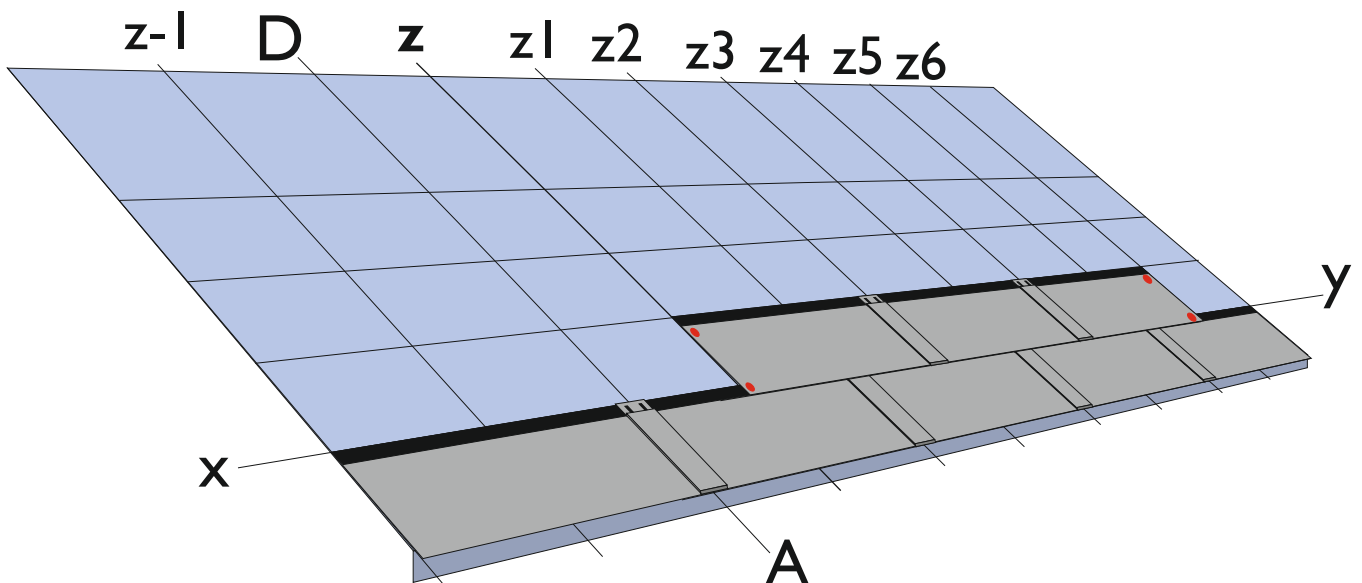

Fig. 10 - Installation of the Ultimetal Clip
- Press the "Compact Strip" down, cover the sealed joint with Ultimetal Clip (Fig. 10) and fix it by placing nails in the proper holes.